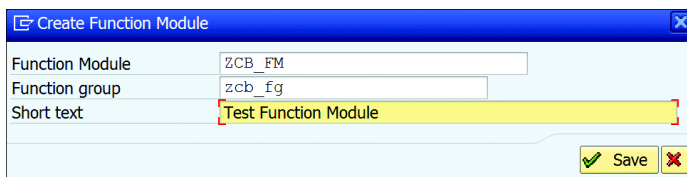

Figure 7.14 Assigning Function Module to Function Group
5. This will open a dialog box in which you'll input the name of the function group and a short description (Figure 7.14). Then, click **SAVE**.